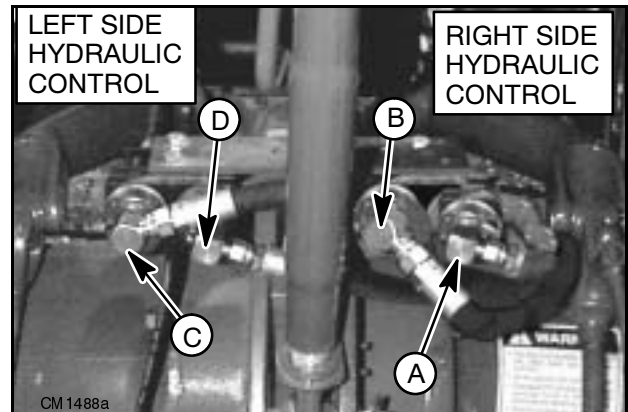

Figure 7 Hose Connections to Tractor Hydraulic Couplers
2. Connect hydraulic hoses to tractor hydraulic couplers as shown in Figure 7.